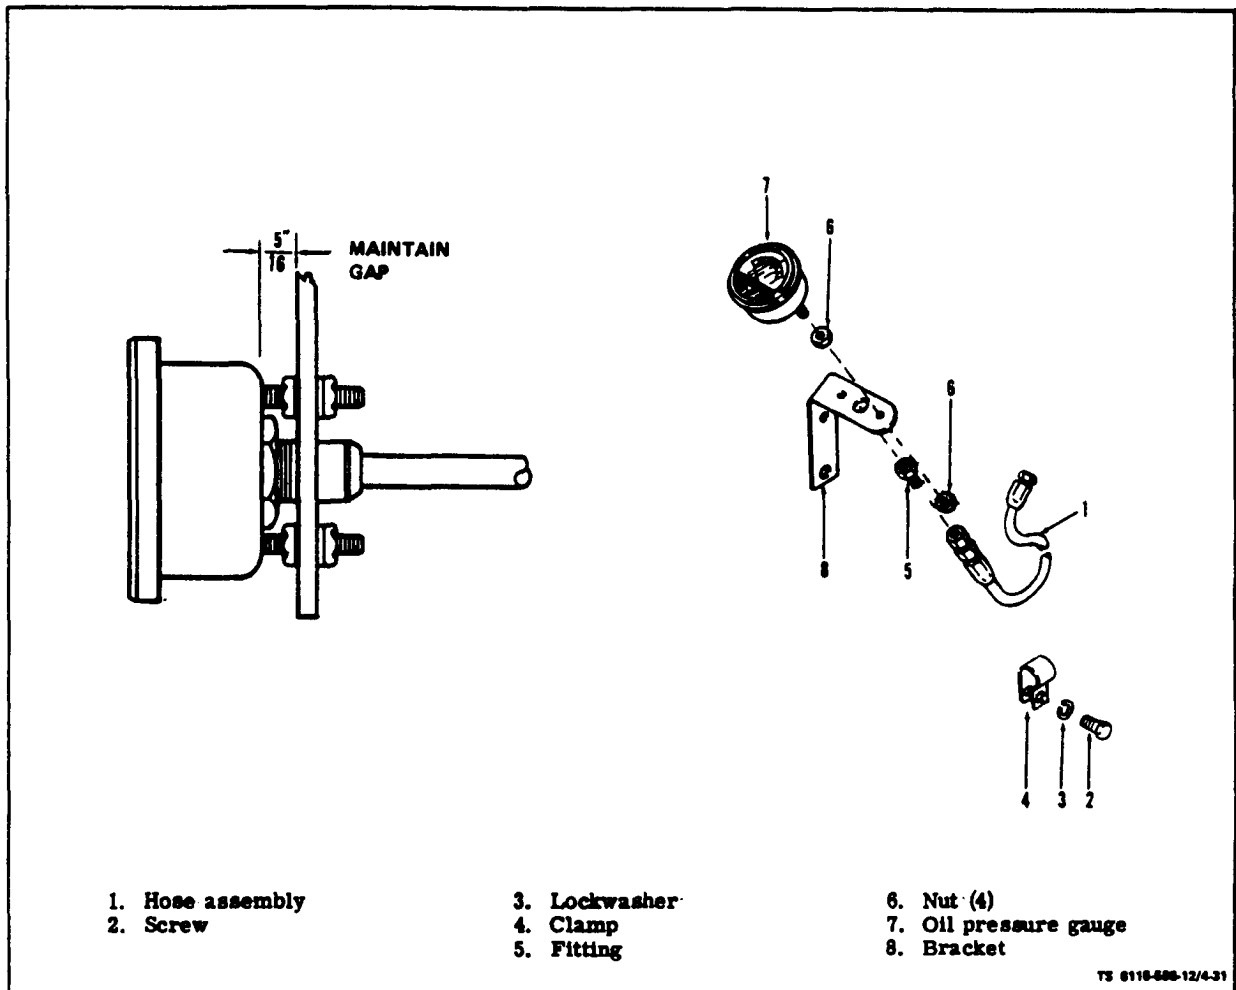

Figure 4-31. Replacing Oil Pressure Gauge
b. Remove (see figure 4-31). Disconnect and drain oil line (1) to Oil pressure gauge (7). Remove screw (2), lockwasher (3), clamp (4) and remove oil pres-
c. Replace. Install oil pressure gauge (7) on mounting bracket (8) with nuts (6) two on each side of bracket (6). Maintain gap between gauge and bracket as indicated on figure 4-31. Position oil pressure gauge and bracket on engine and install clamp (4), lockwasher (3) and screw (2). Connect and tighten oil line (1).